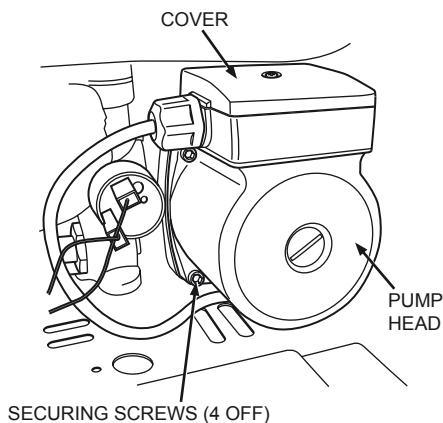

Figure 19.7
- Remove the screws shown in Figure 19.7.